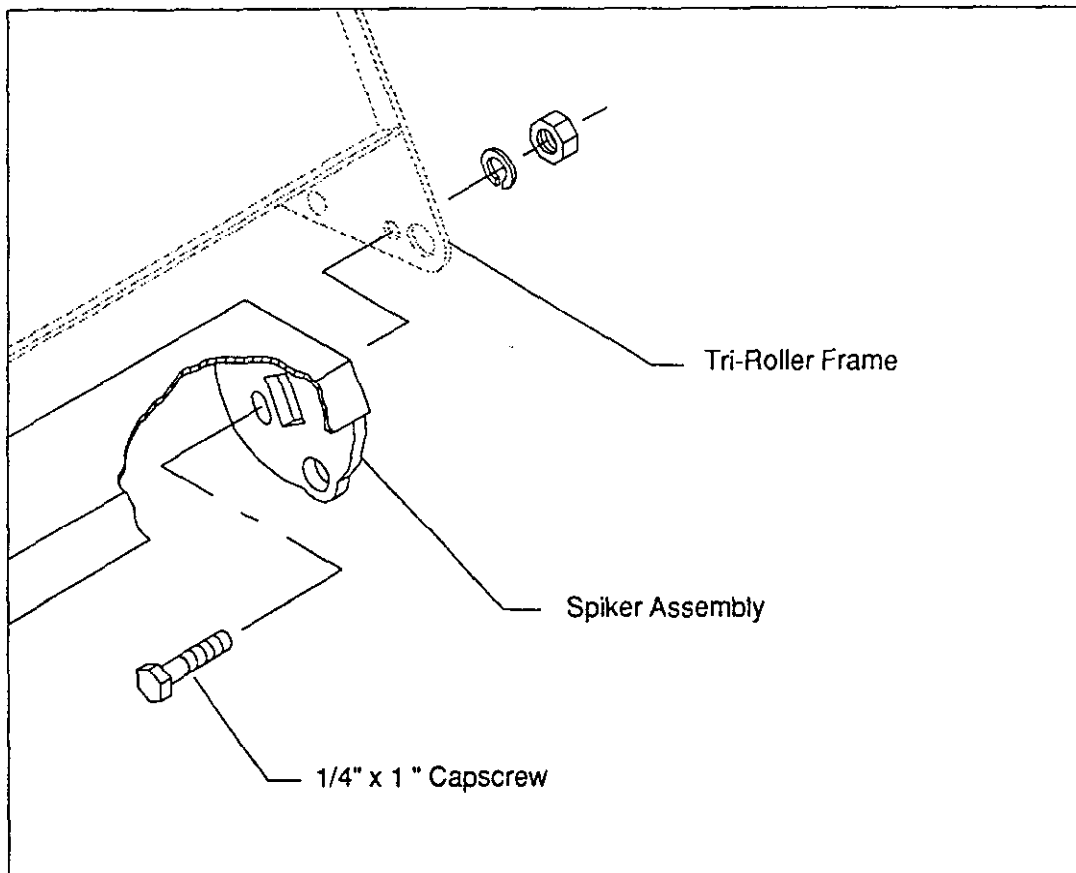

Figure 1
6. To lock the Spiker Assembly into position attach the 1/4" x 1" capscrew to the hole on the left hand side and secure. (See Fig. 1)